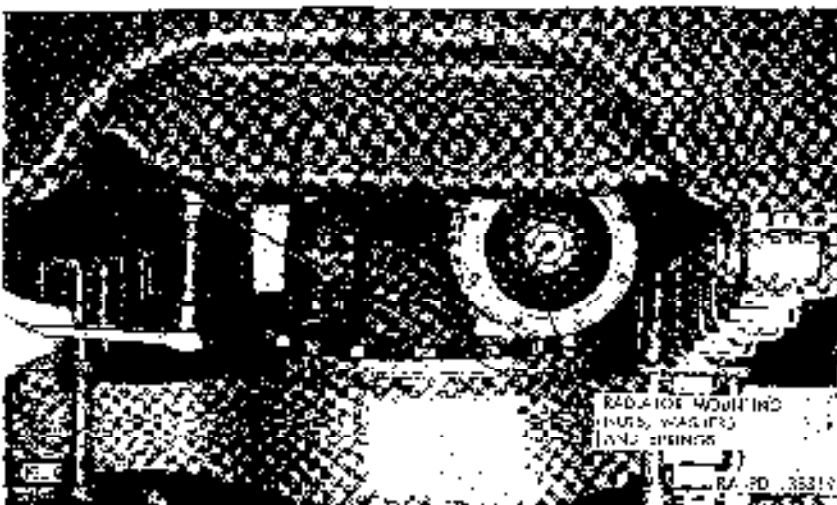

Figure 167. Radiator mounting.
- (8) Remove two radiator mounting nuts (fig. 167), washers, and springs from underside of engine front mounting support.
- (2) Install springs (fig. 167), washers, and nuts on the radiator mounting studs from the underside of the engine front mount